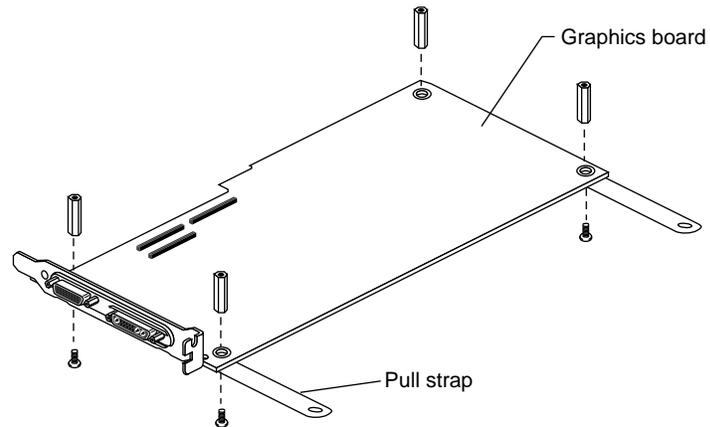

Figure 2-19 Attaching the Pull Straps
- Replace the screws. See Figure 2-19.